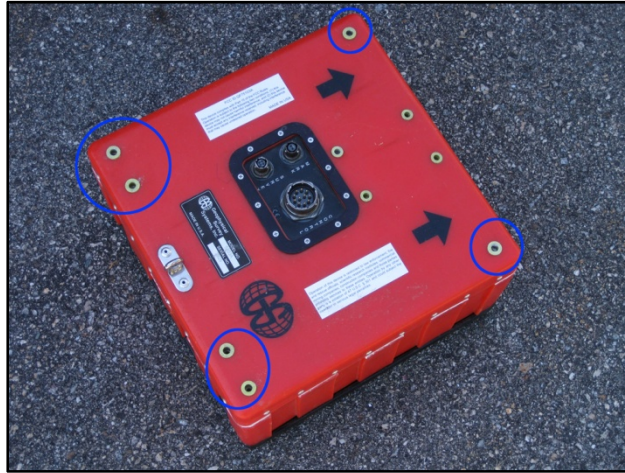

Figure 1: Antenna attachment points in blue circles
- 1 Prepare antenna and antenna mount. Remove the black metal “shark’s fin” bracket on top of the antenna housing and identify the 6 attachment points on the top of the antenna (Figure 1).